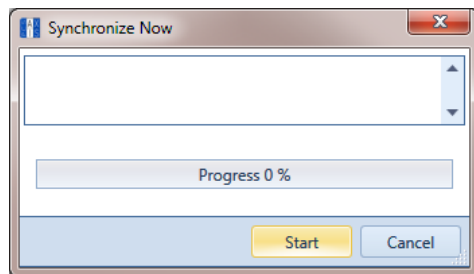

Figure 17-9. Synchronize Now
- 1 Click **Tools** > **Synchronize Now** to open the *Synchronize Now* dialog box. Then click **Start** (Figure 17-9).